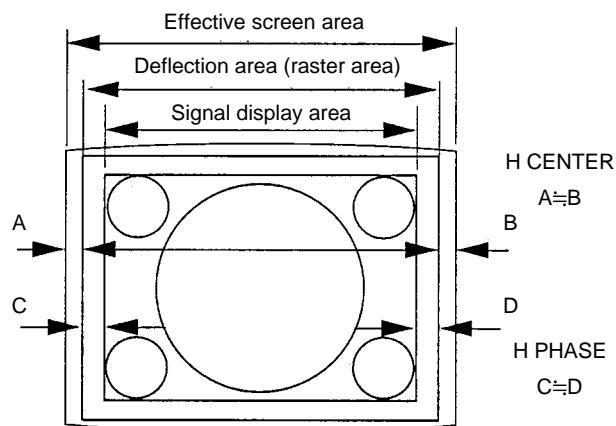

Fig. 1-5
7. Adjust the H. CENTER data so that the raster is position just in the center of the screen (so that A ≈ B). (Fig. 1-5)